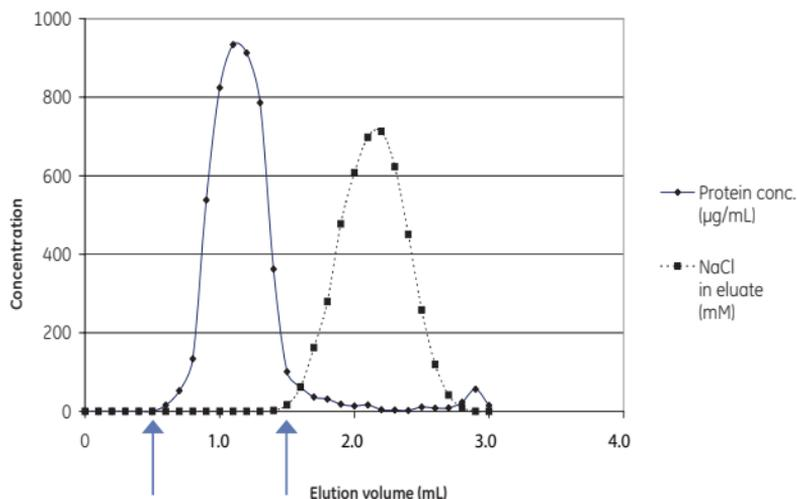

Fig 2. Removal of NaCl from albumin solution with PD MiniTrap G-25. The albumin is eluted in volume fractions between 0.5 to 1.5 mL (indicated by arrows).
- Elute with 1.0 mL buffer and collect the eluate. A typical elution profile is shown in Fig 2
The following experiment is included as an example of a desalting experiment using the gravity protocol. A PD MiniTrap G-25 column was equilibrated with MilliQ™ water. 500 μL of bovine serum albumin 1000 $\mu\text{g}/\text{mL}$ in 1M NaCl was applied onto the column. The protein recovery was 95% and the desalting capacity was above 99%, see Fig 2."